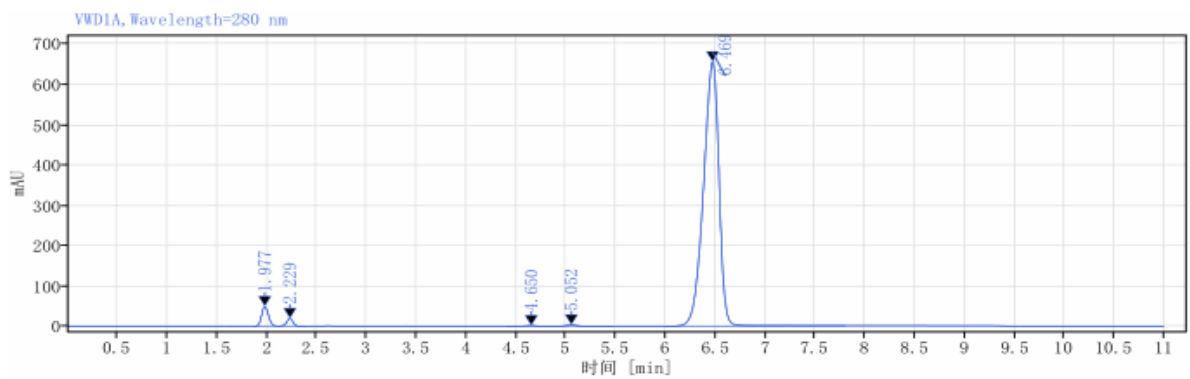

Fig. 3 Typical HPLC-Chromatogram of Propineb WP sample
2.2 Infrared. Prepare potassium bromide discs from the sample and from propineb standard using 0.7 mg material and 400 mg of potassium bromide. Scan the discs from 4000 to 400 cm^{-1} . The spectrum produced from the sample should not differ significantly from that of the standard (Fig. 3).